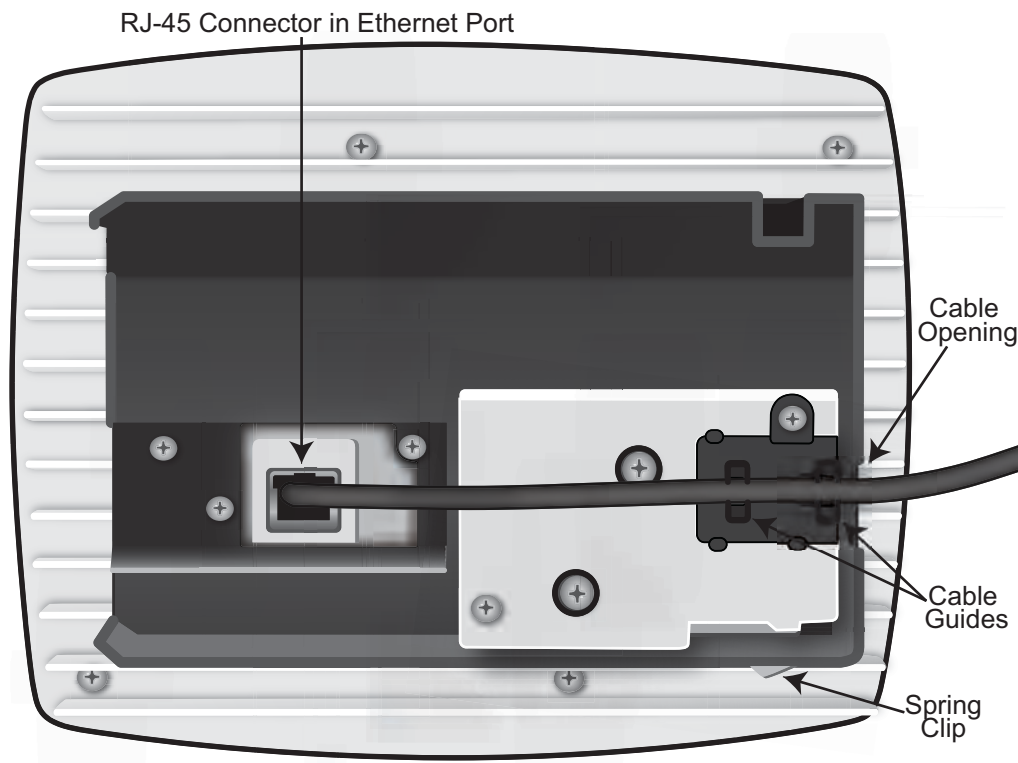
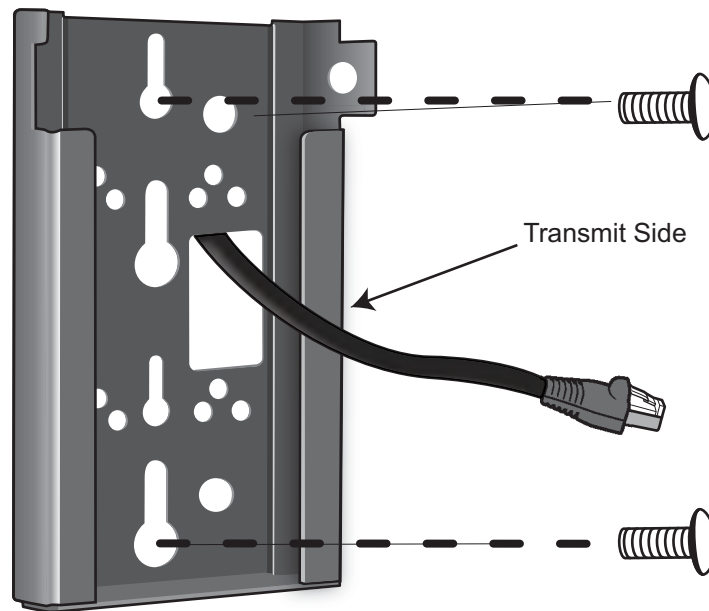

Figure 11 Route and Terminate the Cable
Figure 13 Mount Bracket with Direct Cable Routing
- Step 2** Insert the RJ-45 connector into the Ethernet port as shown in Figure 13. Route the Ethernet cable through the cable guides and pedestal base cable opening and through the cable guides as shown in Figure 11: